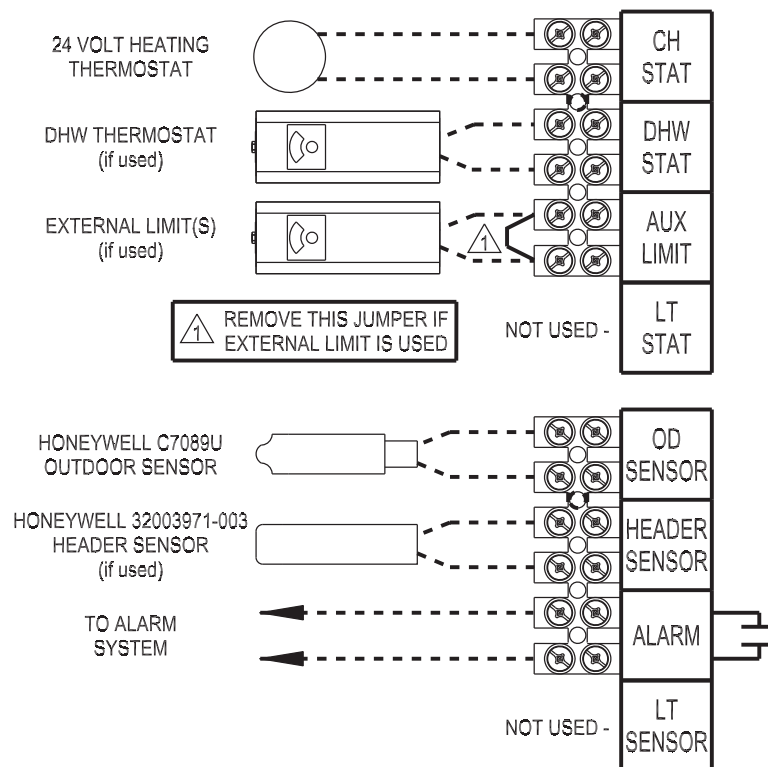

Figure 10.3: Low Voltage Field Wiring
3. Low Voltage Connections – Low voltage Field connections are located on the left side of the control compartment as shown in Figure 10.3 and are listed from top to bottom:
- CH Stat - 24VAC heating thermostat (1)
- CH Stat - 24VAC heating thermostat (2)
- DHW Stat - 24VAC domestic hot water thermostat or Bimini Buddy flow switch (1)
- DHW Stat - 24VAC domestic hot water thermostat or Bimini Buddy flow switch (2)
- Aux Limit - Field supplied low voltage safety limit contacts (1)
- Aux Limit - Field supplied low voltage safety limit contacts (2)
- LT Stat - Not currently used (1)
- LT Stat - Not currently used (2)
- OD Sensor - Honeywell C7089U Outdoor Temperature Sensor (1)
- OD Sensor - Honeywell C7089U Outdoor Temperature Sensor (2)
Refer to Figure 10.3 for low voltage wiring. With the exception of the alarm contacts, external power must not be applied to any of the low voltage terminals - doing so may damage the Sola boiler control. Also note the following: